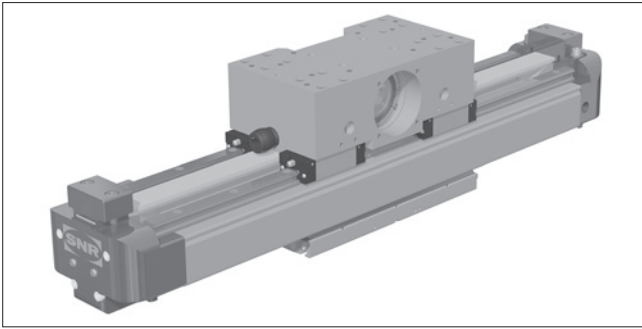

Figure 5.15 \_\_ AXS Telescopic Axis, horizontal with toothed belt /  $\Omega$  - drive
- Telescopic Axis for horizontal and vertical use (Figures 5.15 up to 5.17)